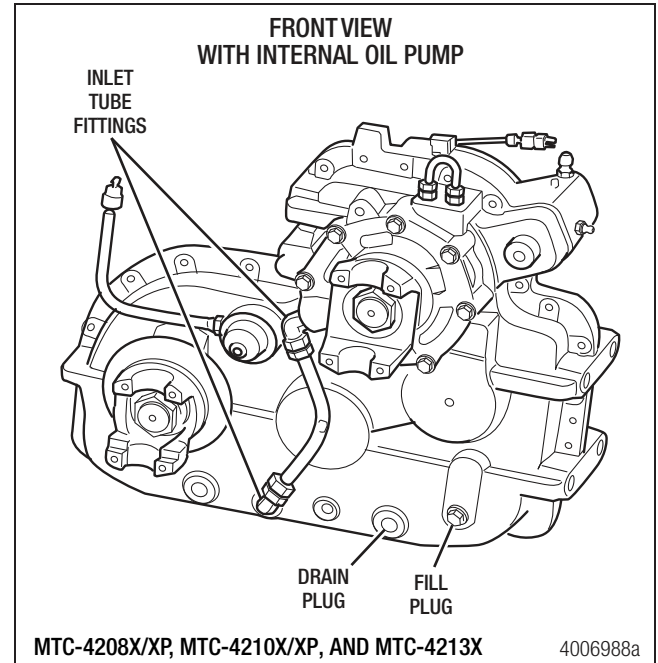

Figure 5.2
- Disconnect the transfer case oil inlet line from the oil pump cover. Figure 5.2.
1. Disconnect the oil line from the input bearing cage. Figure 5.2.